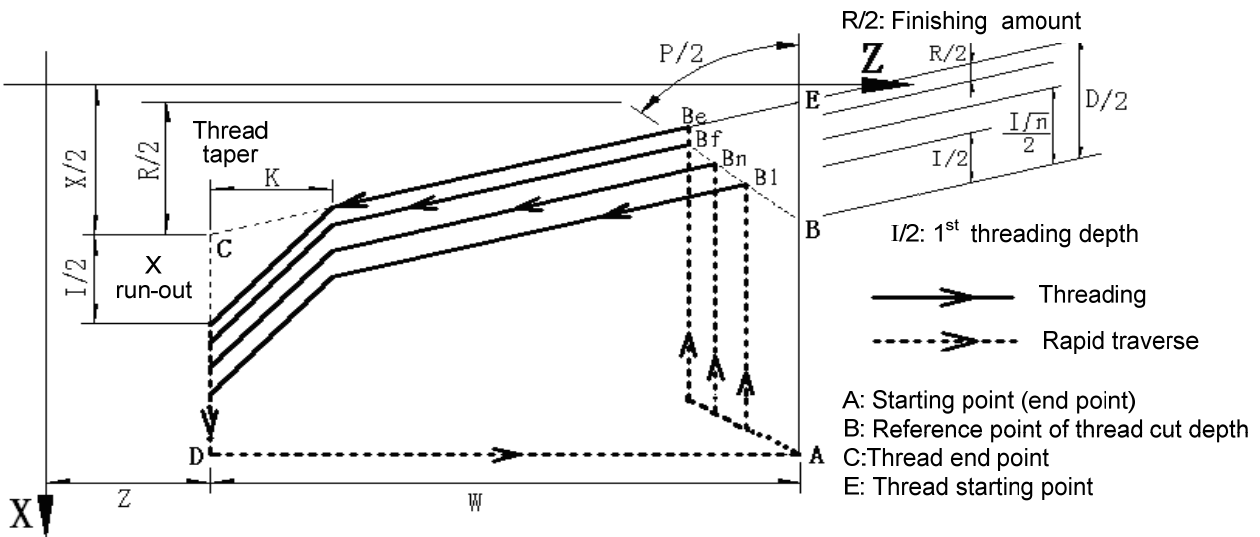

Fig. 4-45
**【Command ① explanation】**
- 1) When the system executes the command, it loads P, L, R, Q values to their corresponding parameters, because these parameters are used when the system executes the command ②.
- 2) When the system executes the command, D, I are memorized to the system internal and are used in G76 ②.
- 3) The system must firstly execute one G76① command, and then can execute one or more G76 ② commands. Otherwise, an alarm is issued because of lacking some necessary information.
- 4) All P, L, R, Q can be omitted. When they are omitted, the system runs according to the setting values of P336, P337, P338, P339 in executing G76②; D, I, however, cannot be omitted.
**Relative definitions:** (as Fig. 4-45)